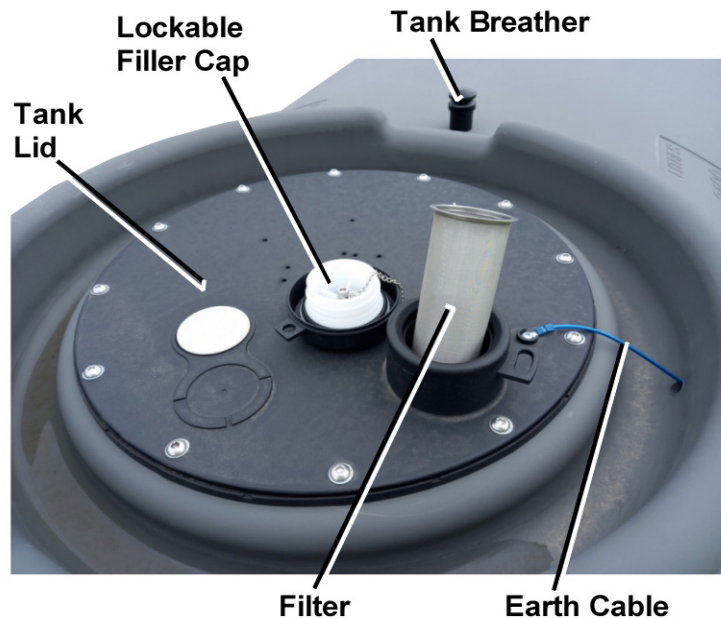

Figure 4 – Tank Filling Operation
- Unscrew the filler cap from the tank's top opening, refer to Figure 4.